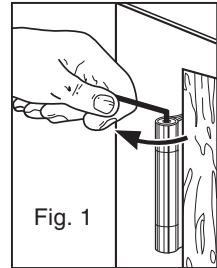

Fig. 1
**To Increase Torque (Fig 1)**